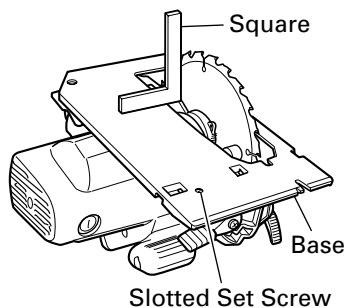

Fig. 22
- (1) Turn the base face up (Fig. 22) and loosen the lever (A).
- (2) Apply a square to the base and the saw blade and, turning the slotted set screw with a slotted-head screwdriver, shift the position of the base to produce the desired right angle.